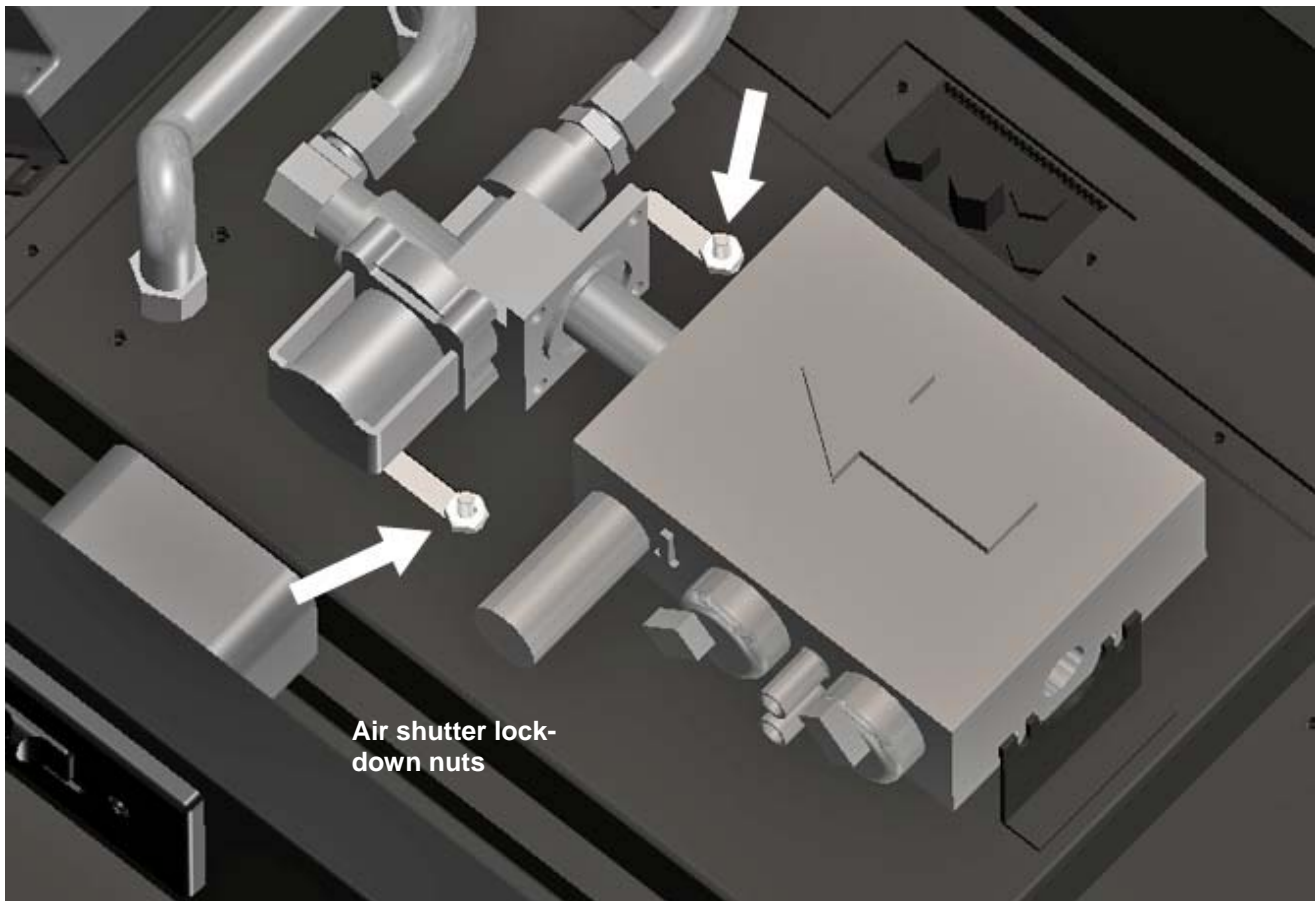

Figure 1
4. From underneath the stove loosen (but do not remove) the nuts that lock the air shutters in place. Adjust the air shutters to a preliminary half opened position (for NG) by loosening the adjusting stud lock nuts underneath the stove. Moving the adjusting stud towards the valve opens the shutters, and away closes the air shutters. When the shutters are in the desired initial position tighten the locking nuts finger tight. See *Figure 1* below.